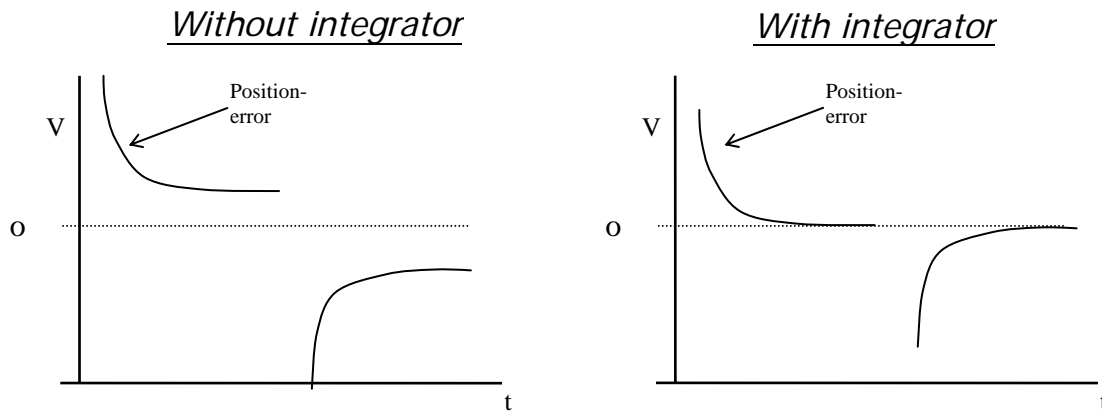

Figure 15: Integrator adjustment
- D.** For better settling accuracy, slowly increase the integrator gain until the constant settling level goes to 0V as shown in Figure 15. Re-adjustment of the *error-proportional* and *velocity* may be necessary.